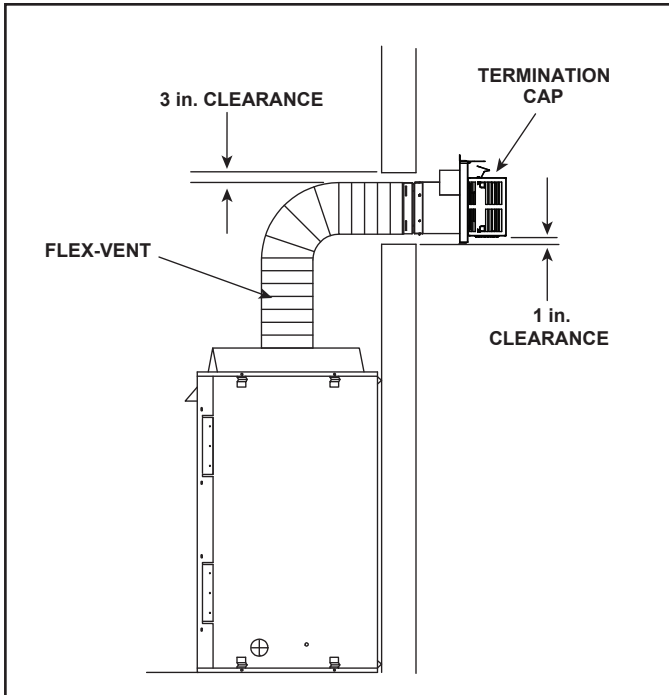

Figure 4.8 Flex Vent Pipe - Generic Fireplace Shown
A support is required at each change in venting direction, and in any location where it is necessary to maintain the necessary clearance to combustibles. A simple “up and out” installation (Figure 4.8) requires only enough support to maintain the necessary clearance to combustibles. However, the vent attachment point and the firestop location are considered to be supports.
**\*\*Note:** When using **SLP-FLEX (6-5/8 in.)** venting, there **MUST** be a 25% reduction in total H when using flex vent. See Figure 4.8.
**\*\*Note:** When using **SLP-FLEX (6-5/8 in.)** venting, there MUST be a 25% reduction in total H when using flex vent. See Figure 4.8.